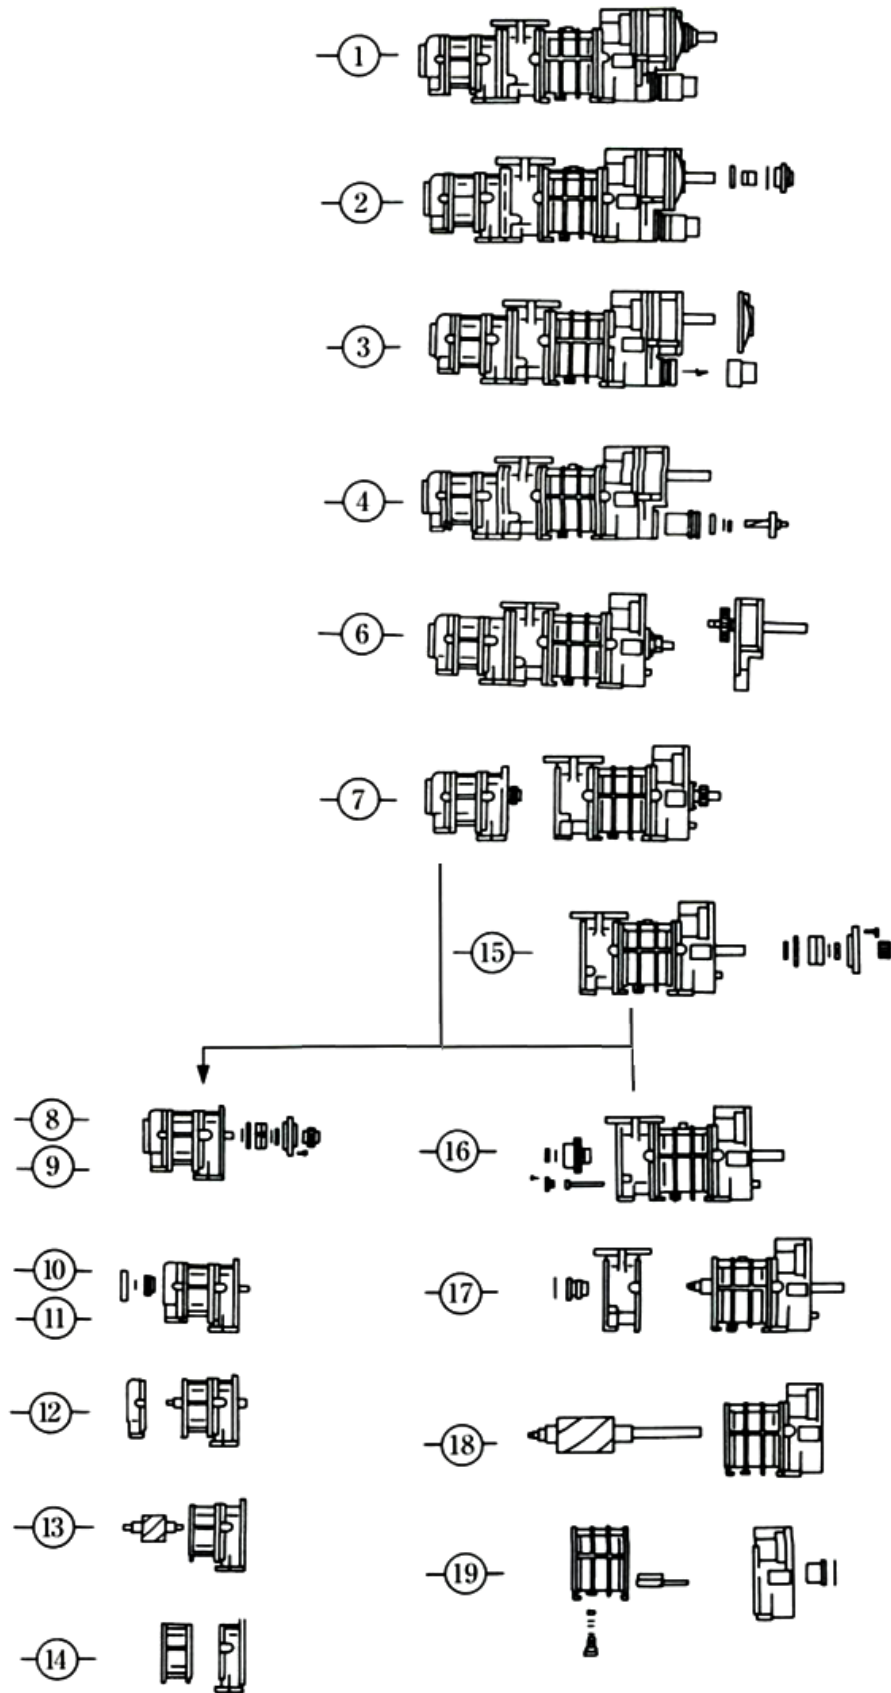

Figure 5-1 Disassembly Order Description
Generally, compressors are disassembled in the order shown in Figure 5-1 Illustrated Disassembly Sequence but the order in the figure is just an example and the actual order may differ according to individual situations.
In addition, it is often the case that the disassembly of unloader cover/unloader cylinder part from mechanical seal part is performed in the reverse order of shown in the Figure 5-1.
Shown in the steps in the Figure 5-1, ① through ⑤, ⑩ and ⑪, you can disassemble the compressor with the compressor attached on its frame.
Part for Disassembly	Disassembly Order (Refer to Figure 5-1)